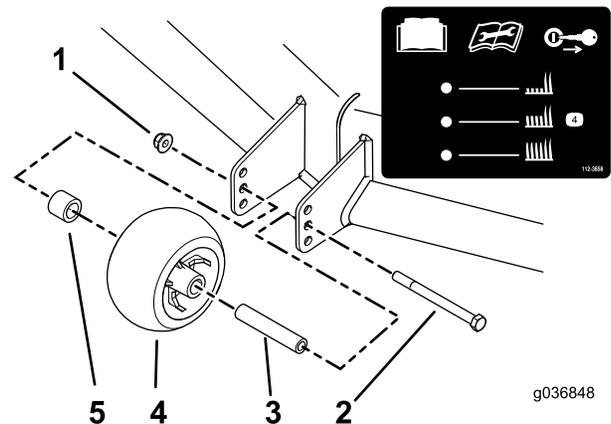

Figure 35
3. Adjust the anti-scalp rollers as shown in Figure 35.